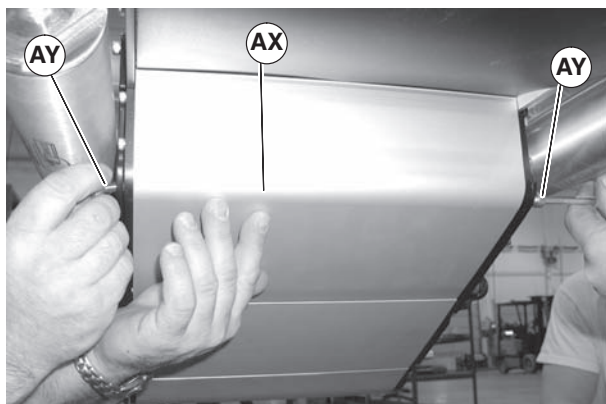

Figure 23
3. Temporarily support idler guard assembly (Figure 23, item AX). Remove screws (AY).